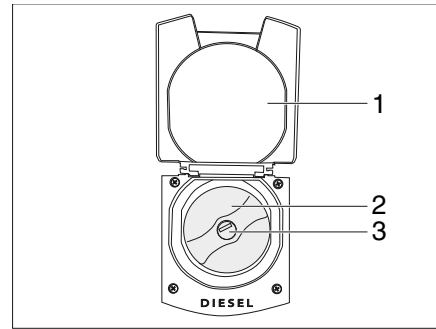

Fig. 38 Opened cover flap for with fuel filler neck
- Close the cover flap (Fig. 38,1).